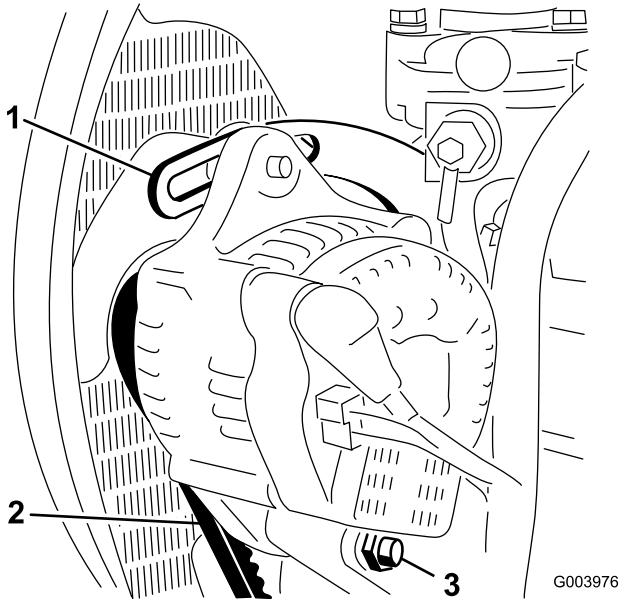

Figure 74
2. Check the tension of the alternator belt by depressing it (Figure 74) midway between the alternator and the crankshaft pulleys with 10 kg (22 lb) of force.
3. Loosen the bolt securing the brace to the engine (Figure 74), the bolt securing the alternator to the brace and the pivot bolt.